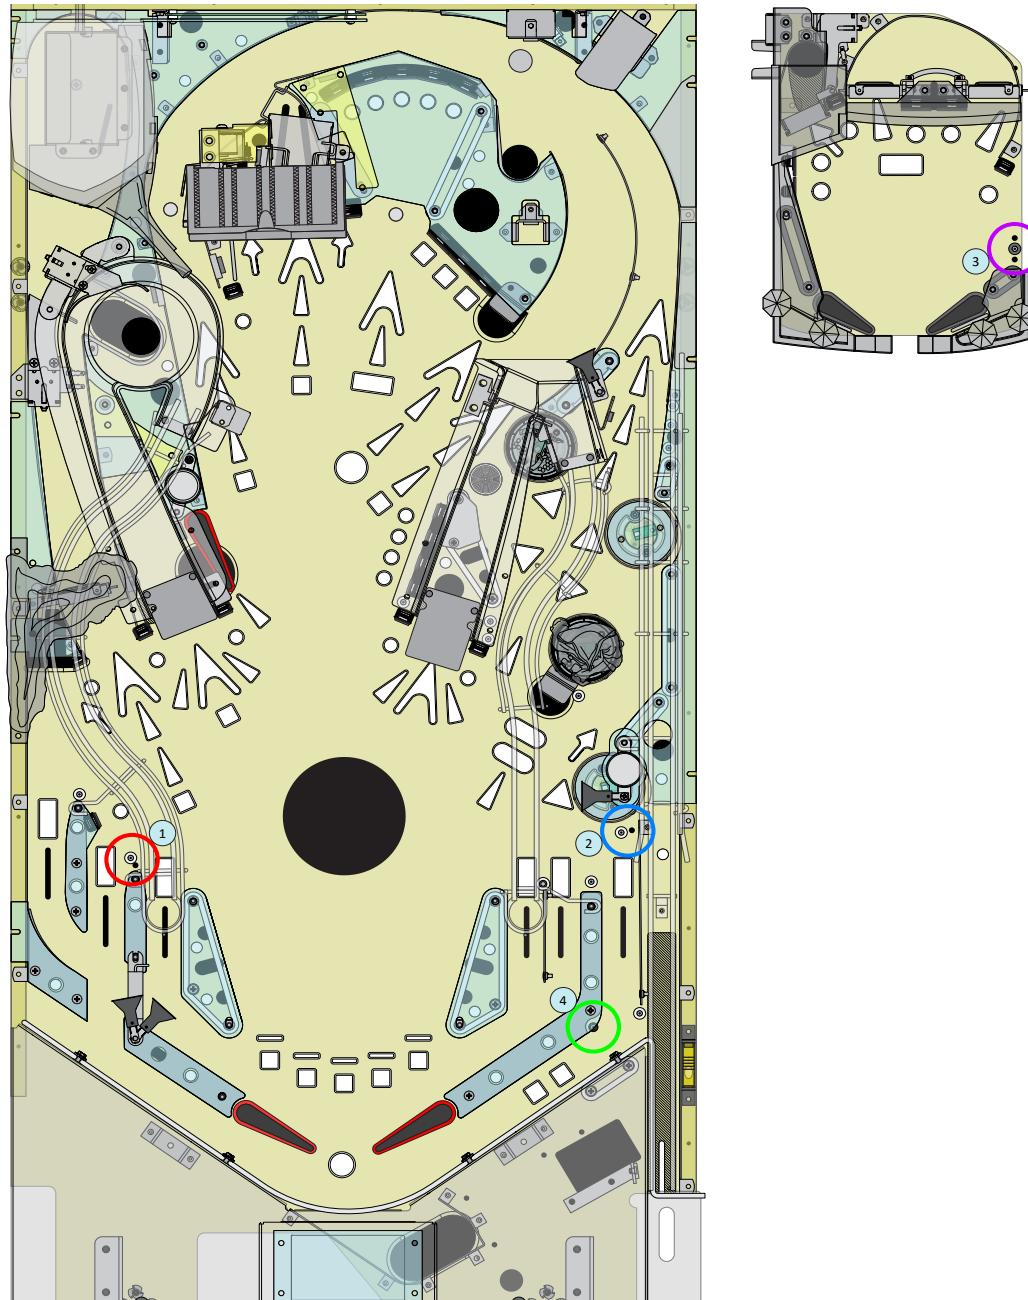

Figure E10. POTC playfield adjustable posts.
1) The steel mini post near the left outlane (circled in red in figure E10) can be repositioned (or removed altogether) to make the game play more or less liberally/conservatively. There are two pre-drilled mounting holes in the playfield. The most liberal post position is the highest (furthest from the player) of the two holes (making it more difficult for the ball to get to the left outlane). When the post is moved closer to the inlane/outlane divider, the game will play more conservatively (making it easier for the ball to get to the left outlane). The most conservative adjustment is to remove the post altogether. See the mini post removal or installation instructions below. No plugs are necessary for the unused hole(s) in the playfield.
2) The steel mini post near the right outlane (circled in blue in figure E10) can be repositioned (or removed altogether) to make the game play more or less liberally/conservatively. There are two pre-drilled mounting holes in the playfield. The most liberal post position is the leftmost (closest to the player) of the two holes (making it more difficult for the ball to get to the right outlane). When the post is moved closer to the inside shooter lane flatrail, the game will play more conservatively (making it easier for the ball to get to the right outlane). The most conservative adjustment is to remove the post altogether. See the mini post removal or installation instructions below. No plugs are necessary for the unused hole(s) in the playfield.
3) The steel mini post near the right side of the Black Pearl mini PF (circled in violet in figure E10) can be repositioned (or removed altogether) to make the game play more or less liberally/conservatively. There are three pre-drilled mounting holes in the mini playfield. The most liberal post position is the highest (furthest from the player) of the three holes (making it more difficult for the ball to fall off of the mini PF). When the post is moved closer to the right side sculpture, the game will play more conservatively (making it easier for the ball to fall off of the mini PF). The most conservative adjustment is to remove the post altogether. See the mini post removal or installation instructions below. No plugs are necessary for the unused hole(s) in the playfield.
4) The steel mini post near the opening in the inside shooter lane flatrail (circled in green in figure E10) has no post rubber attached to it, as shipped from the JJP® factory. This is the conservative configuration for this post (making it more difficult for the player to nudge a ball going down the right outlane back into the shooter lane). A post rubber is included in your cashbox that can be attached to this mini post to make your game play more liberally (making it easier for the player to nudge a ball going down the right outlane back into the shooter lane). To attach the post rubber, carefully lift the back corner of the playfield plastic covering the right flipper return lane plate and slide the post rubber down over the top of the post. Push the rubber down until it sits in the slight groove in the post.